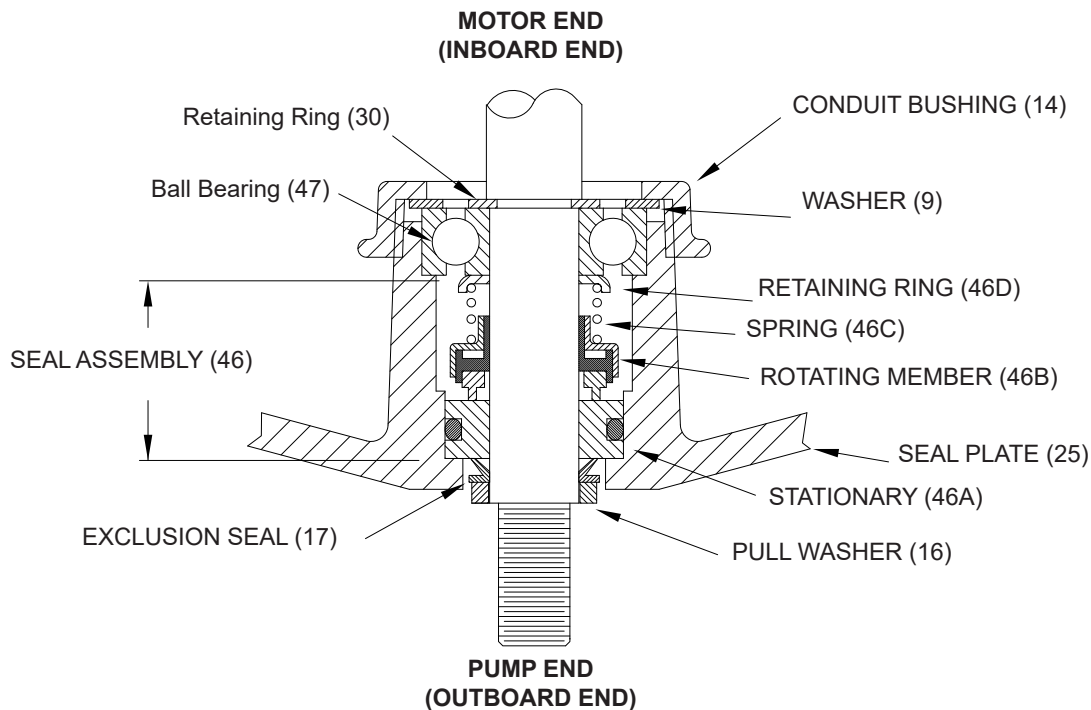

FIGURE 3
To examine or replace the motor (1), shaft seal (46), and bearing (47), drain oil from motor as outlined in paragraph F-1.2. Disassemble volute and impeller as outlined in paragraph F-2.1. (See Figure 3, 4, and 5)
**Seal** - Remove rotating member (46a), spring (46c) and retaining ring (46d) from shaft. (see Figure 3). Examine all seal parts and especially contact faces. Inspect seal for signs of wear such as uneven wear pattern on stationary members, chips and scratches on either seal face. **DO NOT** interchange seal components, replace the entire shaft seal (46). If replacing seal, remove stationary (46a) from seal plate (25) by prying out with flat screwdriver.
**Bearing** - Examine bearing (47) and replace if required. If replacement is required, remove bearing (47) from motor shaft using a wheel puller. Washer (9), retaining ring (30) and conduit bushing (14) can now be removed from motor shaft.